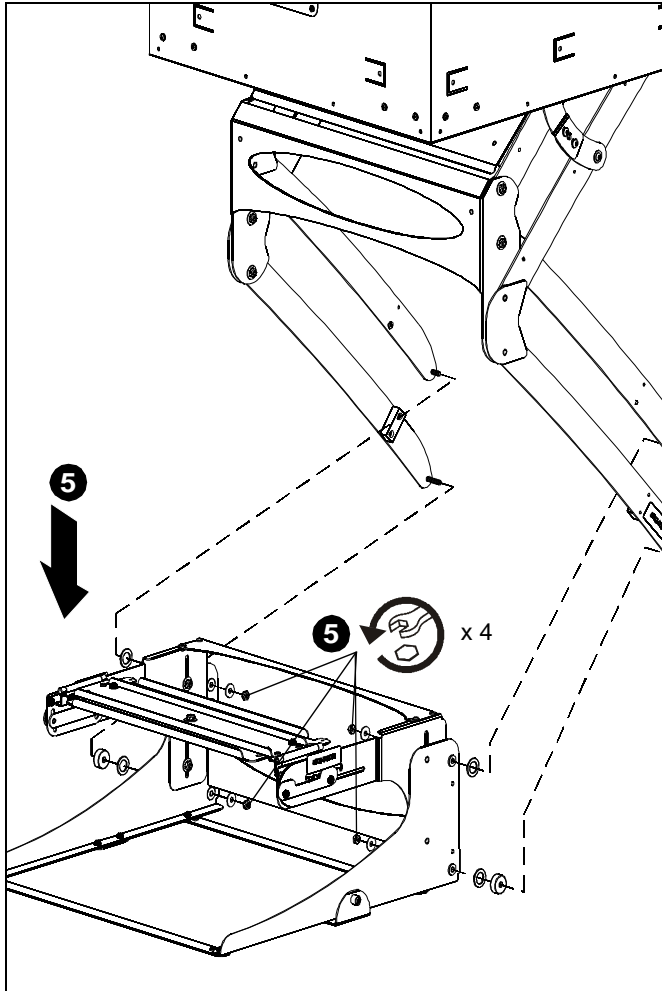

Figure 1
5. Remove projector cradle by removing four locking nuts (two on each side) and additional washers and spacers. (See Figure 1)